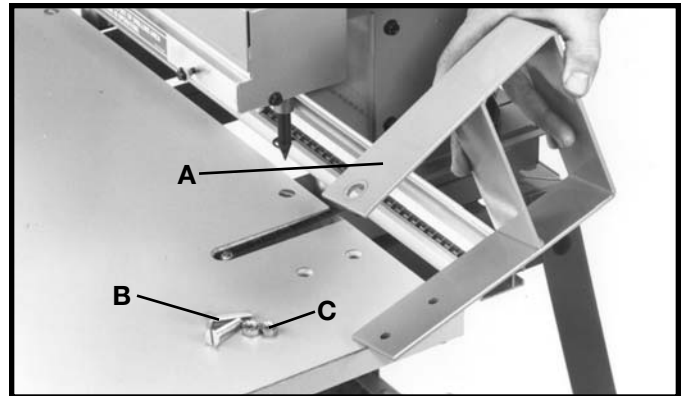

Fig. 29
1. Assemble clamp bracket (A) Fig. 29, to bottom of table using two 1/4-20x1-1/4" flat head screws (B) and 1/4-20 hex lock nuts (C).